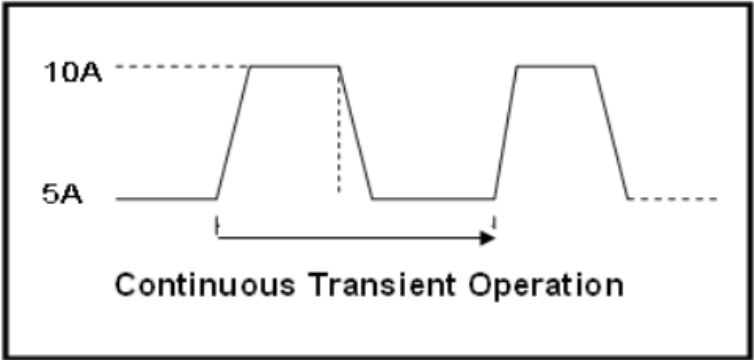

Figure 7-2-2 Continuous Transient Operation
- Continuous mode: the electronic load will automatically switch continuously between the two set high and low values until the operation reaches the set repetition time and the test is finished. The continuous mode interface is shown in Figure 7-2-2.